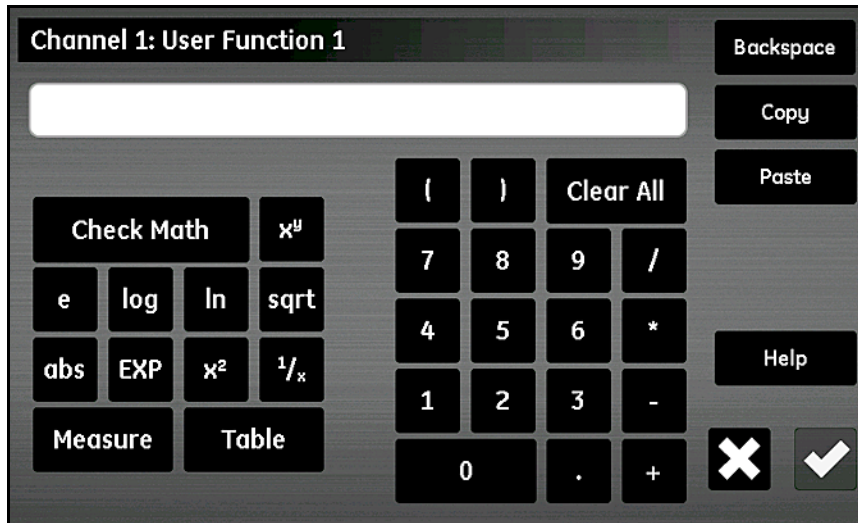

Figure 61: User Function Equation Screen
3. Tap the **User Function** button to select the function name (**Func 1**, **Func 2**, **Func 3** or **Func 4**). Then, tap the large text box just below the **Channel** button to open the *Channel x:User Function y* screen, as shown in *Figure 61* below, to enter the function equation. When the equation is complete, tap the **Check** button to return to the *User Function Setup* screen.
The buttons in *Figure 61* above permit the inclusion of standard mathematical functions, lookup data from predefined user tables (see “*Entering User-Defined Tables*” on page 67). The **Check Math** button is used to find any errors in the equation definition. Also, you may tap the **Clear All** button at any time to start over. The **Copy** and **Paste** buttons at the top right corner of the screen may be used to duplicate information from one user function to another to avoid entering the same information multiple times.